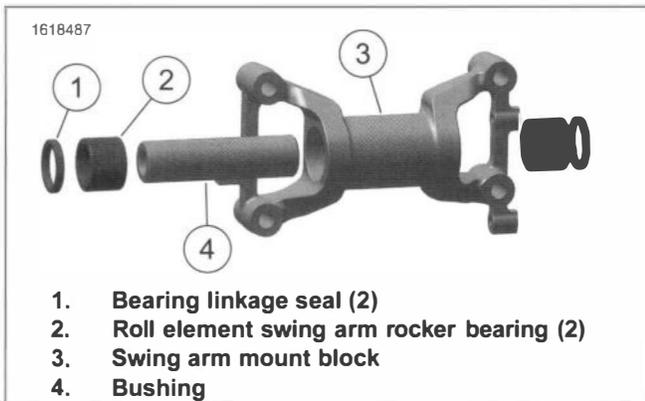

Figure 3-76. Swing Arm Assembly Mount Block
1. See Figure 3-76. Push to remove bushing (4).
2. Remove seals (1).
3. Using suitable tool press bearings out (2).
2. See Figure 3-76. Using suitable tool, press bearings in (2).
3. Using suitable tool, install seals (1).
4. Install bushing (4).